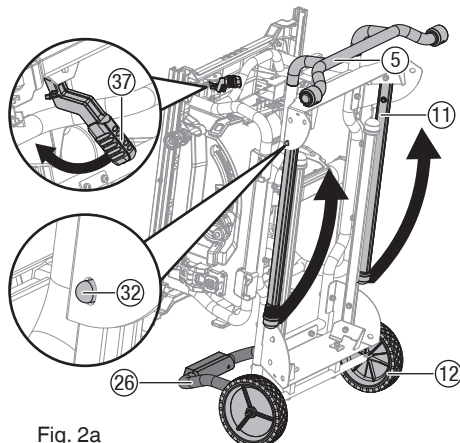

Fig. 2a
OPEN THE STAND (Fig. 2a-2d)
- Push the fence rails lock lever (37) toward the front of the saw to lock it. (Fig. 2a)
- Grasp the handle I (5) and tilt saw back onto wheels until the stand is balanced on the wheels (12) and stand support assembly (26). (Fig. 2a)
- Fold out two upper stand legs (11) (located on side of the handle I). To do this, push the lock pins (32) until they unlock the stand legs (11) from the holes, then swing the stand legs (11) upward until the stand legs (11) are locked with the lock pins (32) engage the holes. (Fig. 2a)